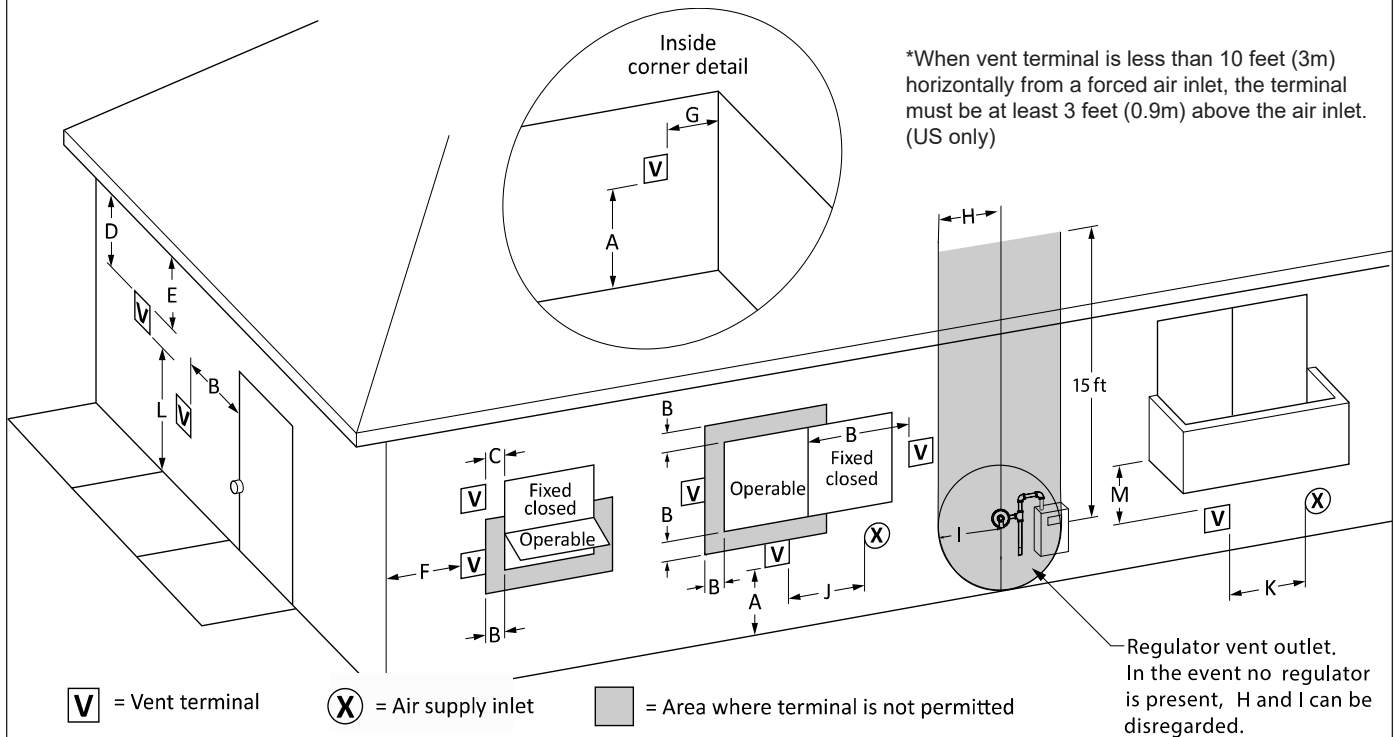
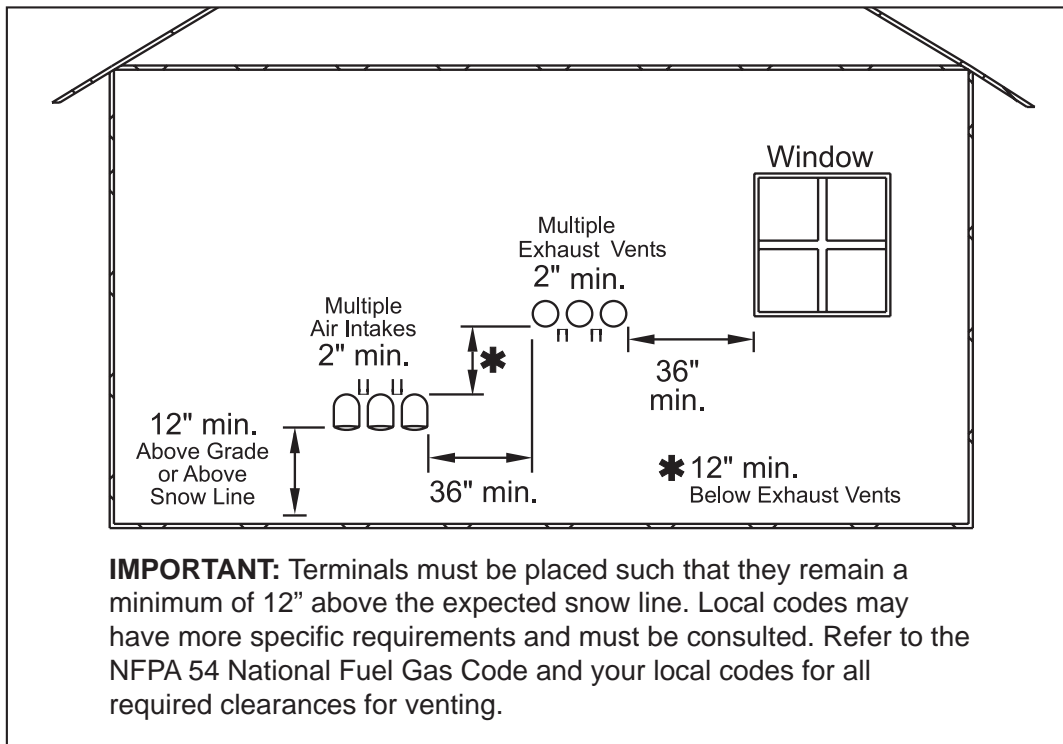

Figure 19. Combustion Air and Vent Through Side Wall
Figure 20. Multiple Side-Wall Terminals,
1. Figure 19 shows the requirements for mechanical vent terminal clearances for the U.S. and Canada. The outdoor models must be installed at least 10 ft (the vent pipe) from any door or window that can be opened. The exhaust vent shall not be under any overhang or roof. Use only the vent components included with the boiler.
The side wall combustion air terminal, or concentric terminal must be used when the heater takes air from a side wall. (See page 23) Contact manufacturer for AL29-4C termination fittings. Consider the following when installing the terminal. (See Figure 19 through Figure 20.)